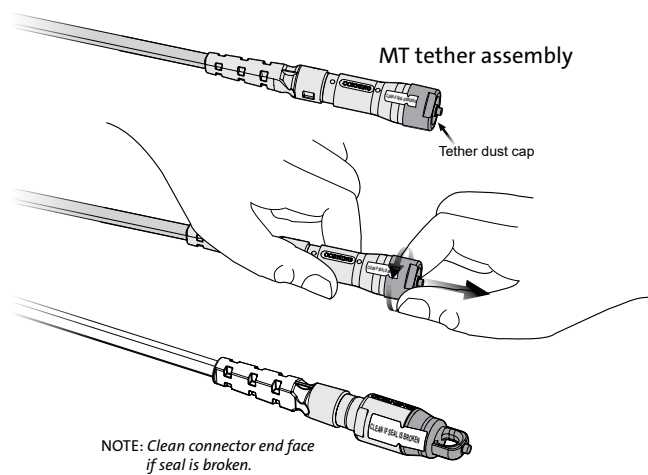

Figure 18
Step 2: Remove the dust cap from the tether assembly by turning the cap counter-clockwise (Figure 18).